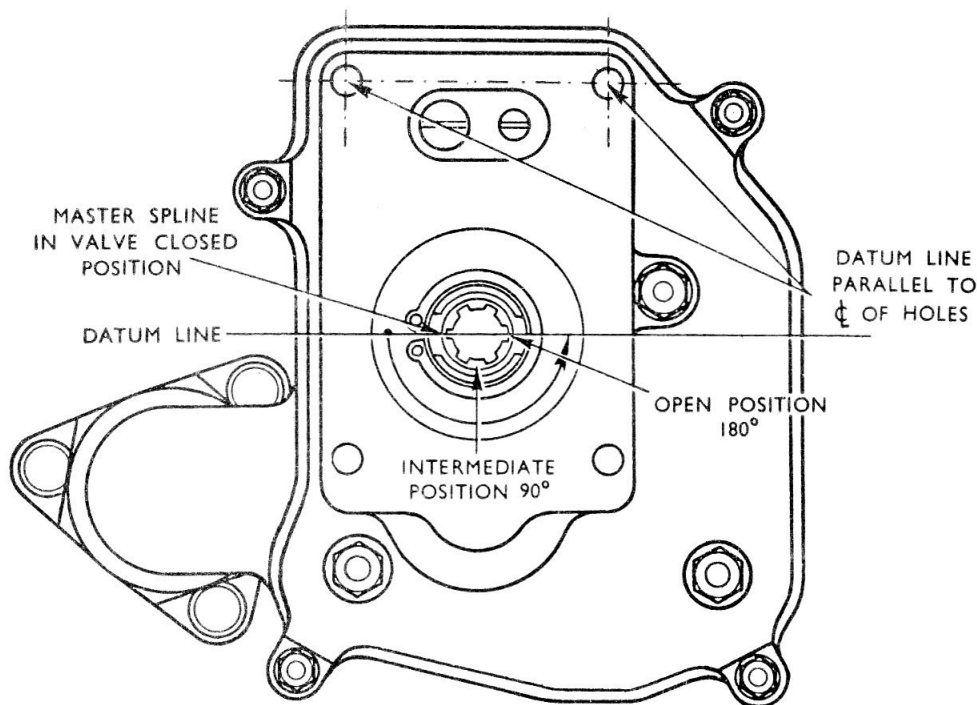
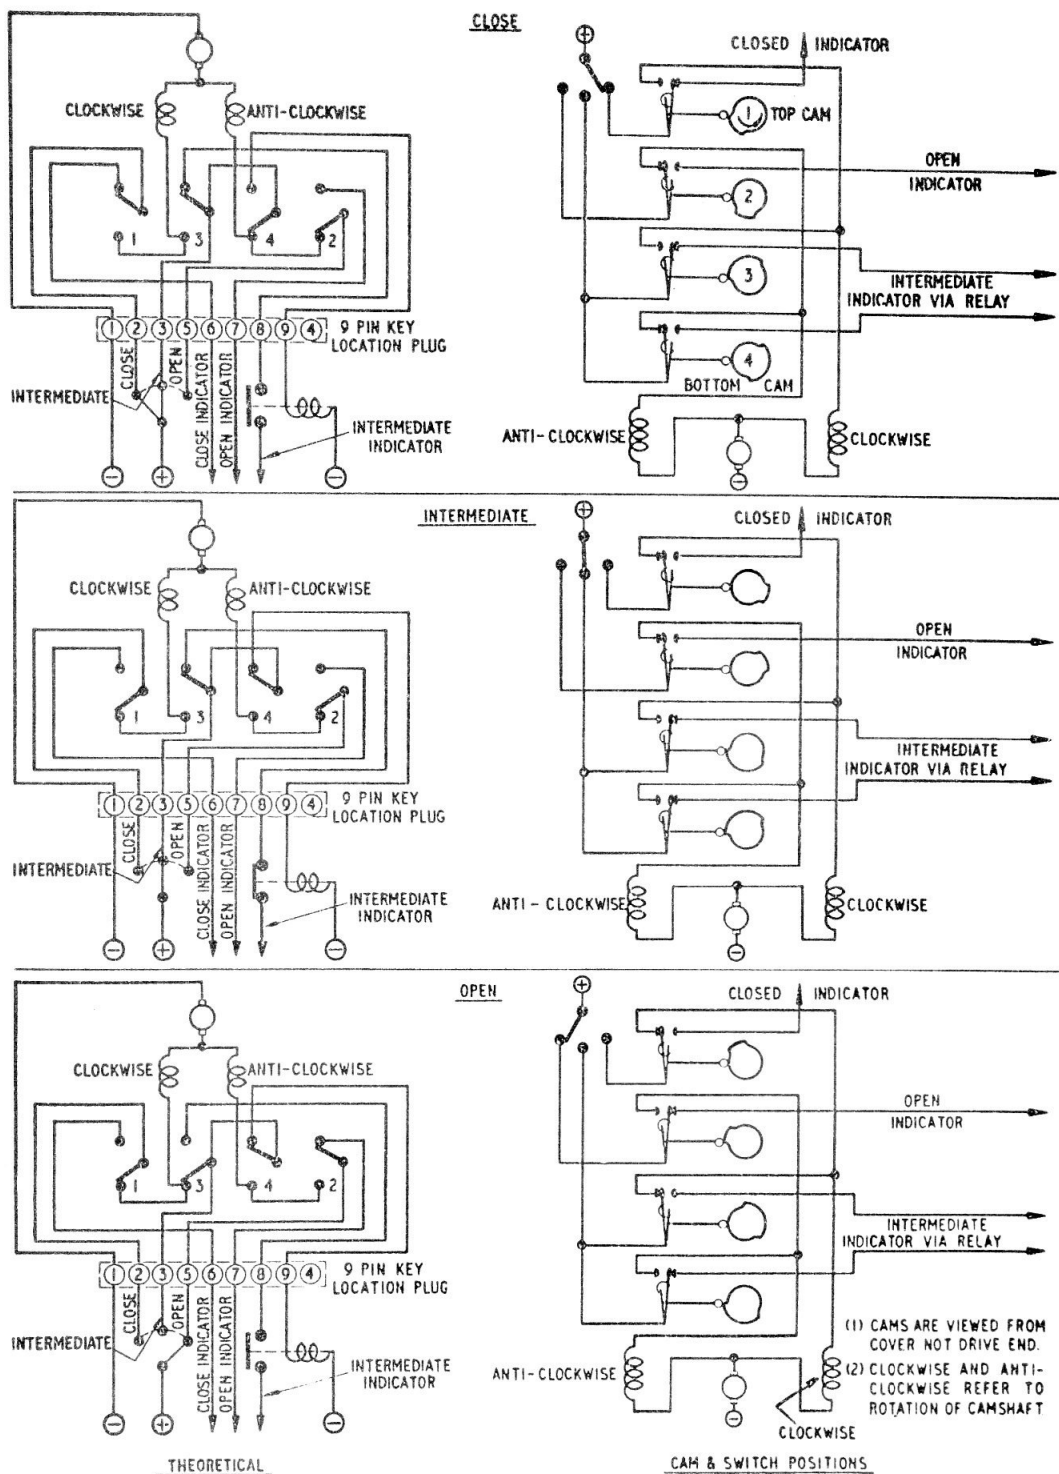

Fig. 3. Movement arc of master spline
Fig. 4. Circuit diagram
11. Reference to the circuit diagram (fig.4) and the movement arc of the master spline (fig.3) will assist in the appreciation of the operation. Selection of the control switch may be manual or automatic.
15. The actuator is mounted to the valve and secured to the valve flange by four 2 B.A. nuts, plain and spring washers. The quill engages the valve shaft and it is important to ensure that, before engaging the quill with the shaft, the two master splines are in correct alignment. The movement arc of the master spline is shown in fig.3.